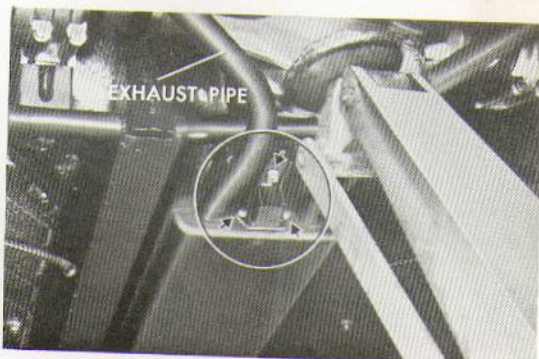

Fig. 25
Loosen screw (B) shown in Fig. 25 and move the base plate to make the adjustment.